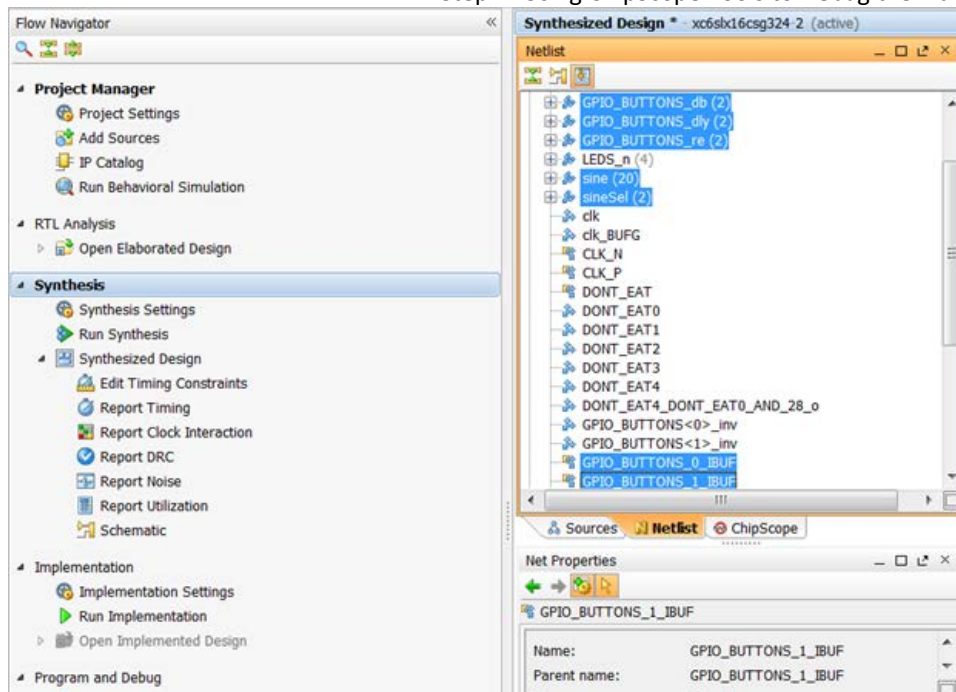

Figure 3: Adding Nets from the Netlist Tab
3. Expand **Nets**. Select the following nets for debugging (also shown in Figure 3):
The steps above are illustrated in Figure 3.